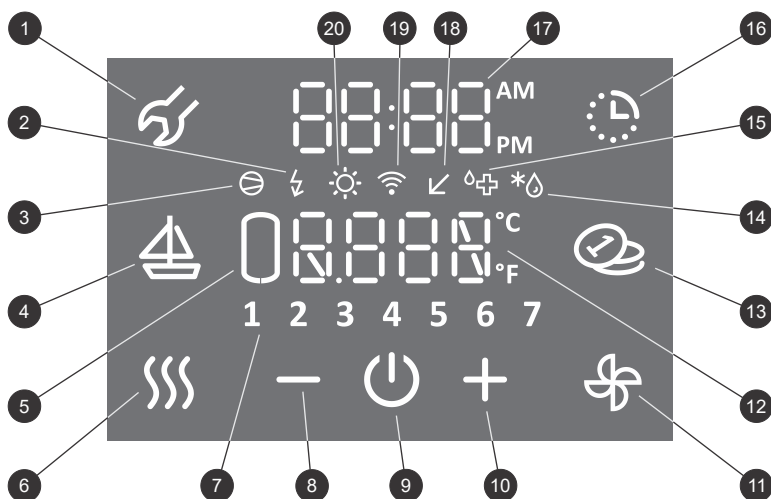

Fig. 11: Control display
The heat pump can be operated using an LCD touch screen (Figure 11). Features and displays depend on the models.
- After 1 minute of inactivity (no pressing on the display) the display always reverts to saving mode. The saving mode shows the current water temperature and, depending on the model, the symbols of features currently in progress (see Figure 11).